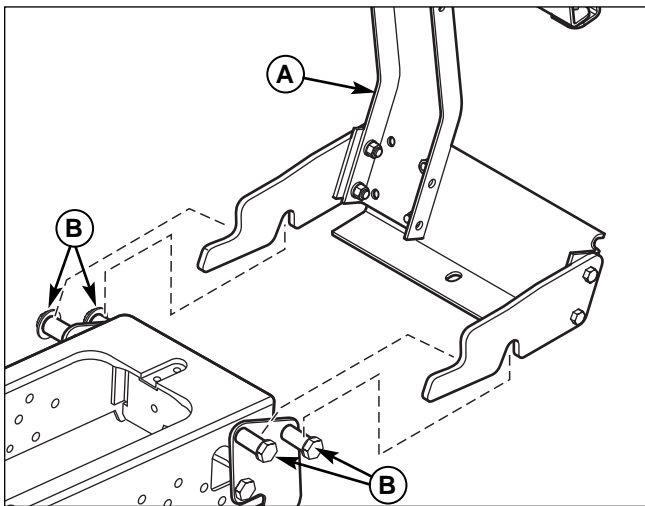

Figure 11. Attach Hitch and Upright Support
1. Attach hitch and upright support assembly (A, Figure 11) to frame spacers (B) as shown.